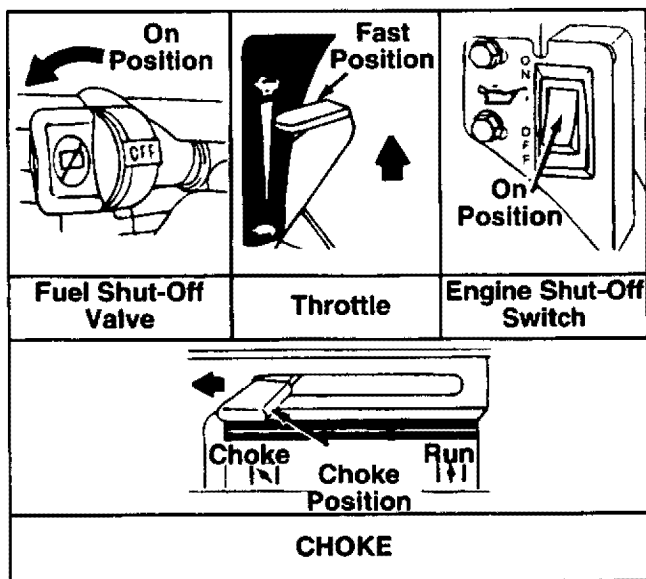

FIGURE 13.
- Open fuel shut-off valve by turning in direction of arrow. See figure 13.
- Place the throttle control lever in FAST position. See figure 13.
- Place the engine shut-off switch in ON position. See figure 13.
**NOTE:** If engine does not fire after three attempts, move choke lever halfway between CHOKE and RUN position and try again. See figure 13.
- Move engine shut-off switch to OFF position. See figure 13.